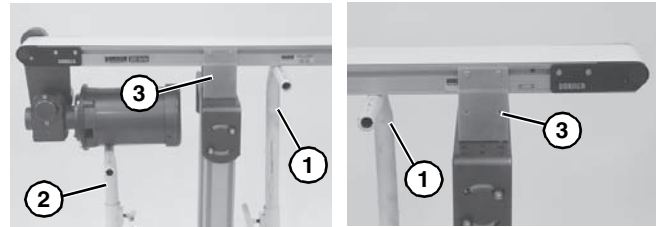

Figure 19
1. Place temporary support stands (**Figure 19, item 1**) at both ends of the conveyor. Place an additional support stand under the drive motor (**Figure 19, item 2**), if equipped. See WARNING.
2. Remove mounting brackets (**Figure 19, item 3**) from one side of conveyor. (Reverse steps 3 & 4 of “Mounting Brackets” section beginning on page 8.) If equipped with heavy load drive package, remove brackets from side opposite drive cover (**Figure 20, item 1**).
- Ensure temporary support stands (**Figure 19, item 1**) are placed at both ends of the conveyor. Place an additional support stand under the drive motor (**Figure 19, item 2**), if equipped. See WARNING.